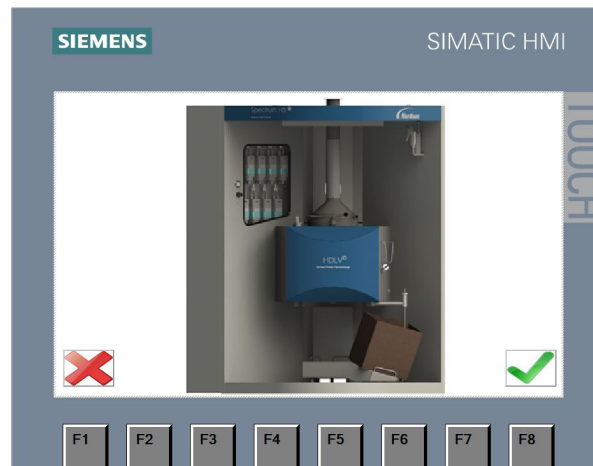

Figure 4-3 Install Hopper Box Screen
3. The screen shown in Figure 4-3 directs the operator to place the power box underneath the hopper. Once this is complete, press **OK** (green tick) to release the powder into the box.